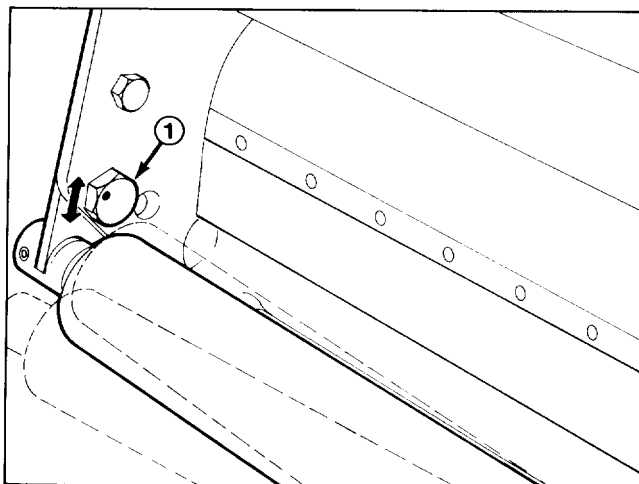

Figure 6
**Note:** Be sure that the plate covers the full length of reel blades, and (3) blades contact plate.
7. While holding reel securely on plate, level roller by rotating lower left roller pivot bolt. The pivot bolt has an offset thread which when rotated, acts as a cam to raise or lower the roller. On the bolt head there is an identification dot (Fig. 6) which denotes the offset of the bolt. Dot indicates in which direction left end of roller moves when bolt is turned.